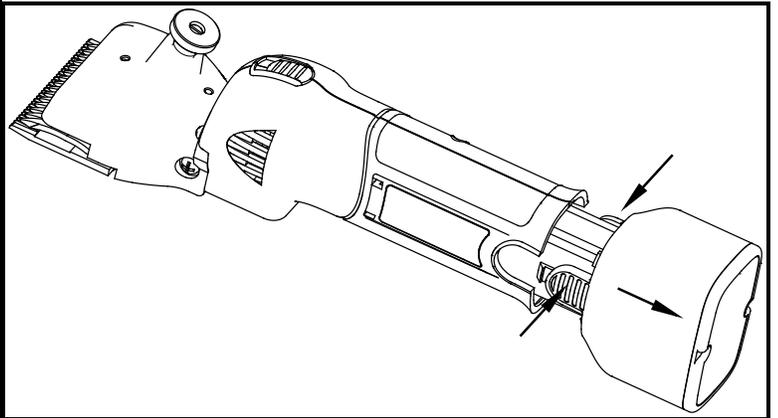

Figure 5
2. To remove the battery cartridge, withdraw it from the clipper while pressing the buttons on both sides of the battery cartridge. (**Figure 5**)